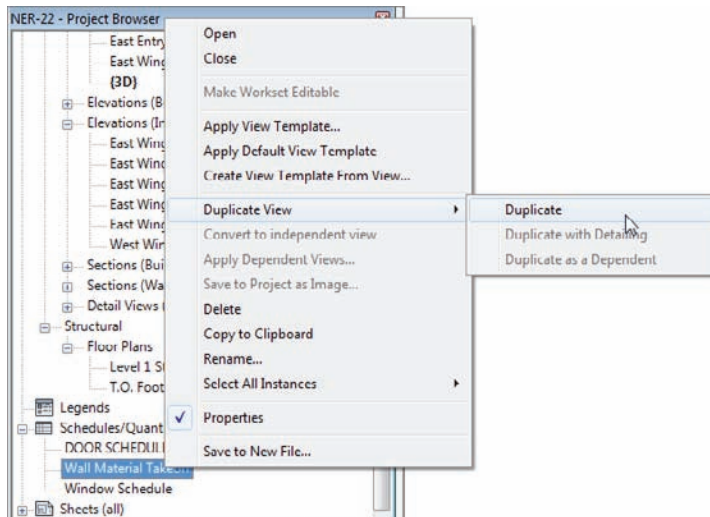

FIGURE 11.31 Duplicating the schedule
1. In the Project Browser, right-click Wall Material Takeoff, and select Duplicate View > Duplicate, as shown in Figure 11.31.